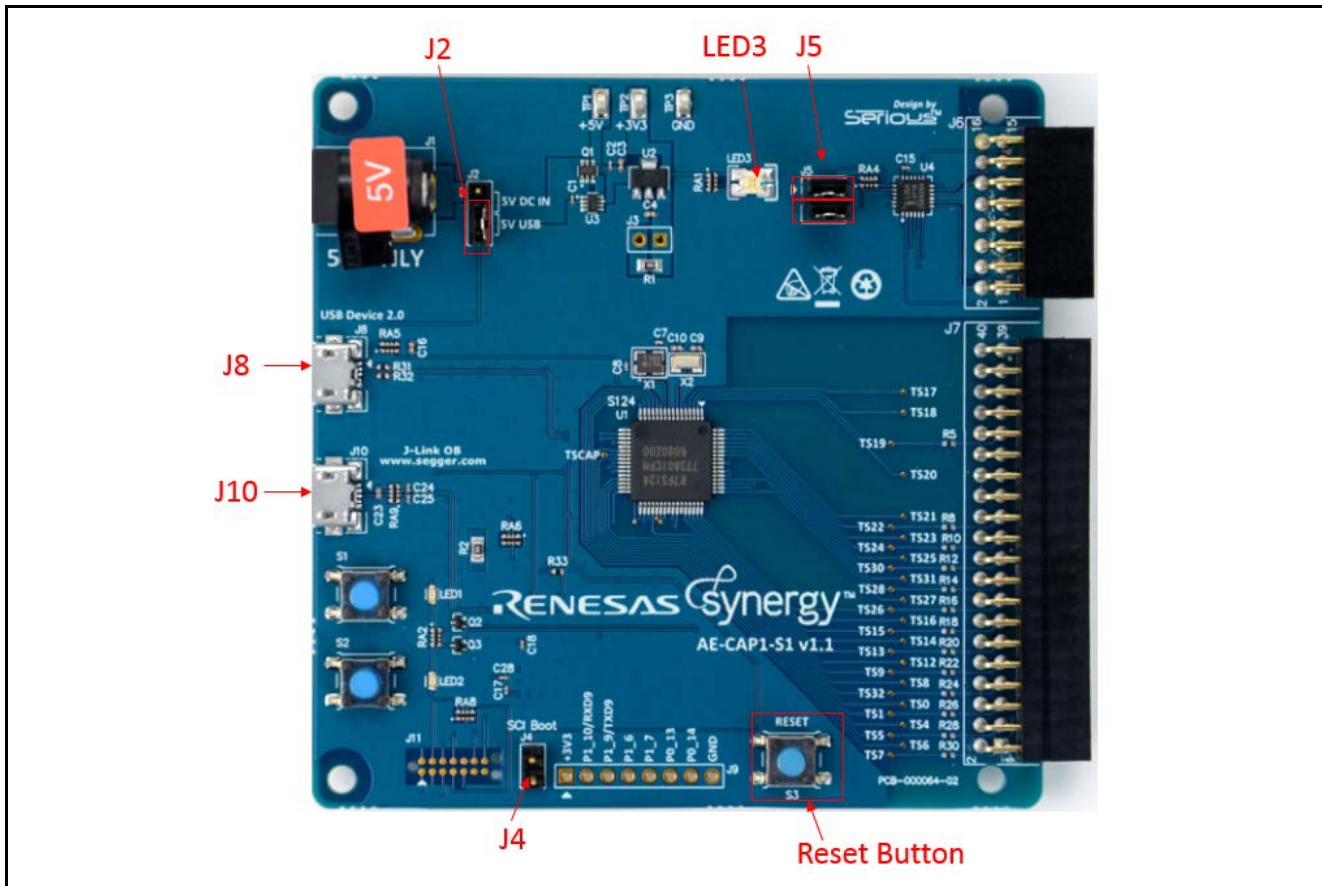

Figure 6. AE-CAP1-S1 setting for application board LED control
1. Leave jumper J4 open, orient jumper J2 towards the USB Device, and install jumpers for J5 as shown in Figure 6:
1. On the AE-CAP1-S1, leave jumper J4 open, orient jumper J2 towards the USB Device, and un-install jumpers from J5 (leave J5 open). See Figure 6 for jumper locations J4, J2, and J5.
1. Use the same settings from Figure 6 to set up AE-CAP1-S1 jumpers.